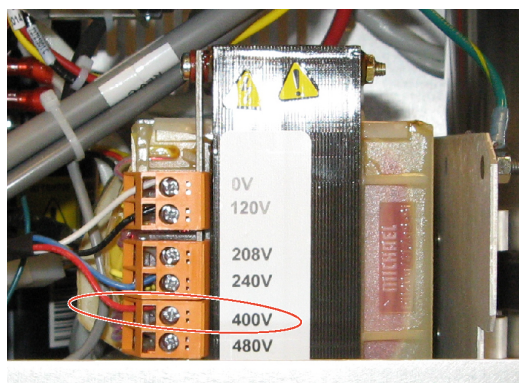

Fig. 4-78 Connection 400V
2. Check that the red wire is connected to 400V, at the generator transformer. See Fig. 4-78.